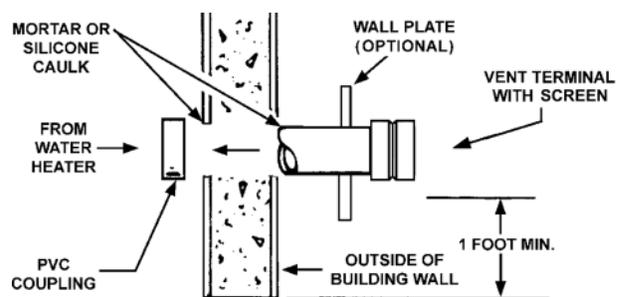
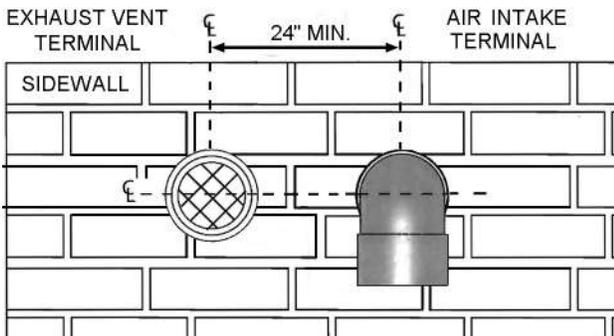
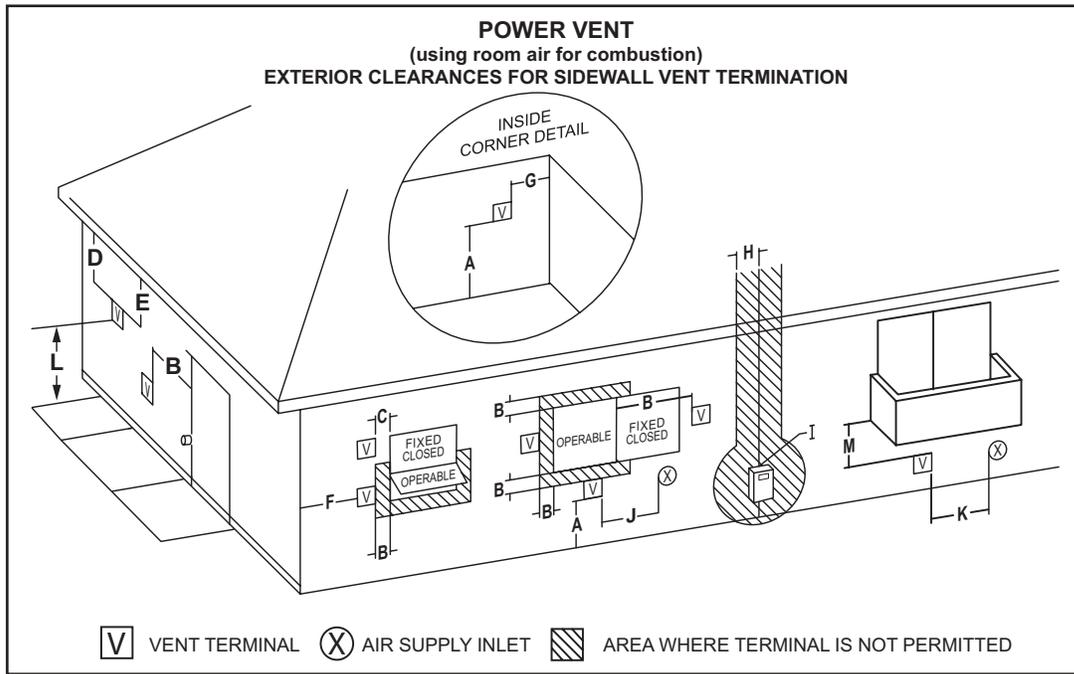
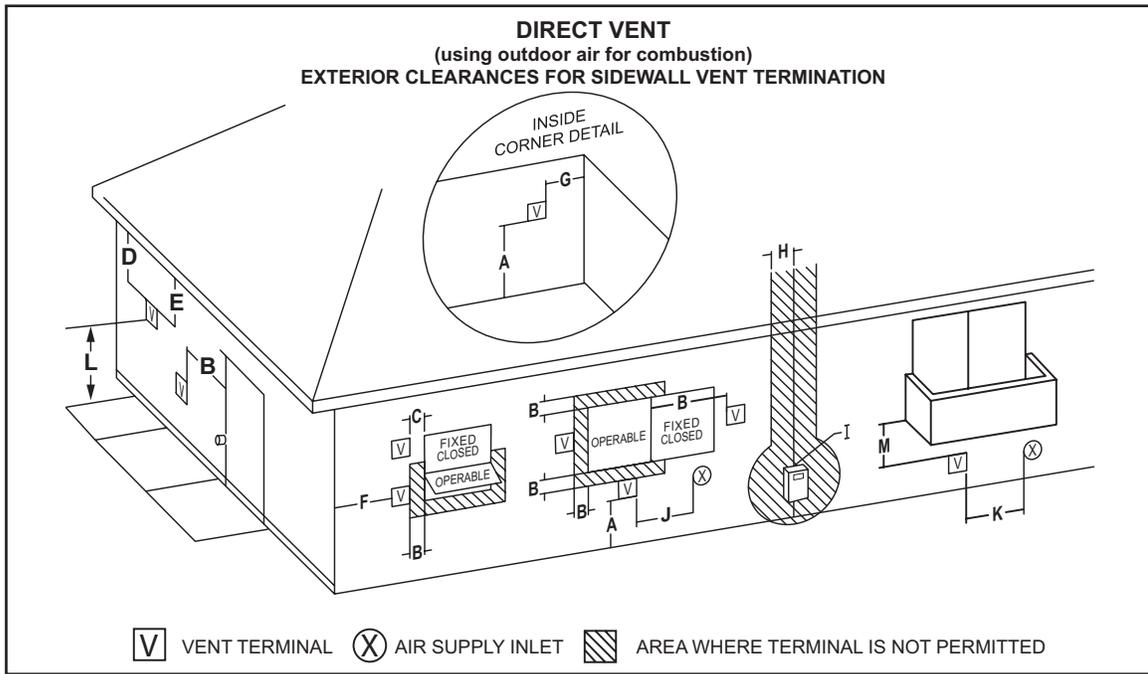

Figure 12: VENT TERMINATION
Figure: 13A
Figure: 15
Figure: 16
2. Through-the-Wall Termination - horizontal vent termination directly through an outside wall, see "Figure 12: VENT TERMINATION" on Page 26.
Direct venting into dead spaces such as alleys, atriums, and inside corners can cause recirculation of flue gases. Recirculation of flue gases will cause sooting, and icing of the combustion air intake during severe cold weather. To prevent the recirculation of flue gases, maintain as much distance as possible between the combustion air intake and the exhaust vent terminal refer to "Figure: 15" and "Figure: 16" on Page 28 & Page 29 respectively.
The first step is to determine where the vent pipe will terminate. See Figures 12, "Figure: 13A", and "Figure: 14". The vent may terminate through a sidewall as shown in Figure 12 and "Figure: 14" or through the roof as shown in "Figure: 15" and "Figure: 16".
The vent system must terminate so that proper clearances are maintained as cited in local codes or the current edition of the Natural Gas and Propane Installation Code (CAN/CSA-B149.1). See "Figure: 15" and "Figure: 16".
Instructions on proper installation through a sidewall are provided in Figures 12, "Figure: 13A", and "Figure: 14".
Cut a length of pipe about 3.5 inches (8.9 cm) longer than the wall thickness at the opening. Glue the vent terminal to this section of pipe. Slide the wall plate over the pipe to stop against the vent terminal. Place a bead of caulking (not supplied) around the gap between the pipe and wall. Apply enough to fill some of the gap between the pipe and wall. Place some of the caulking on the back of the plate to hold it against the wall after installation. If the vent pipe is installed up to the wall, with a coupling on the end against the wall opening, the pipe with the vent terminal can be prepared for gluing before inserting through the wall. Slide the pipe through the wall and insert into the coupling on the other side of the wall, making sure that the vent terminal ends up pointed in the correct position, see Figure 12.
6. If the air intake pipe is installed up to the wall, with a coupling on the end against the wall opening, the pipe with the air intake terminal can be prepared for gluing before inserting through the wall. Slide the pipe through the wall and insert into coupling on the other side of the wall, making sure that the air intake terminal ends up pointed in the correct position (Figure 13A and Figure 14).